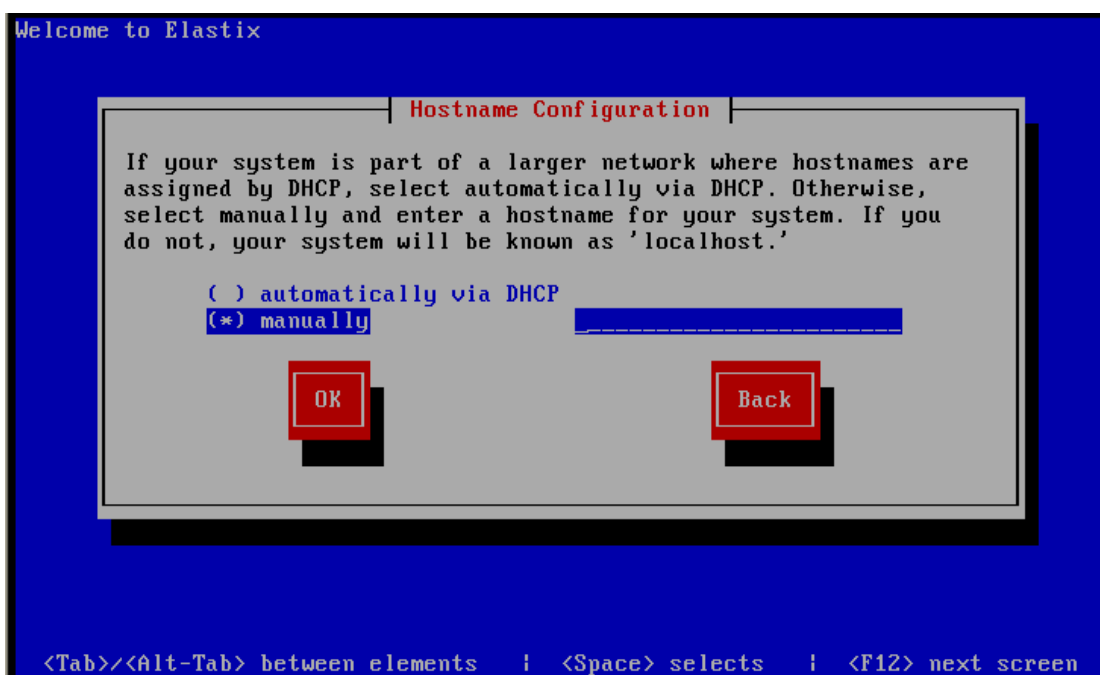

Figure 10
- Next, determine how to get the hostname, assigned automatically via DHCP or entered manually. Here we select 'manually' and enter a hostname such as 'Synway' on the dotted line (Figure 10).